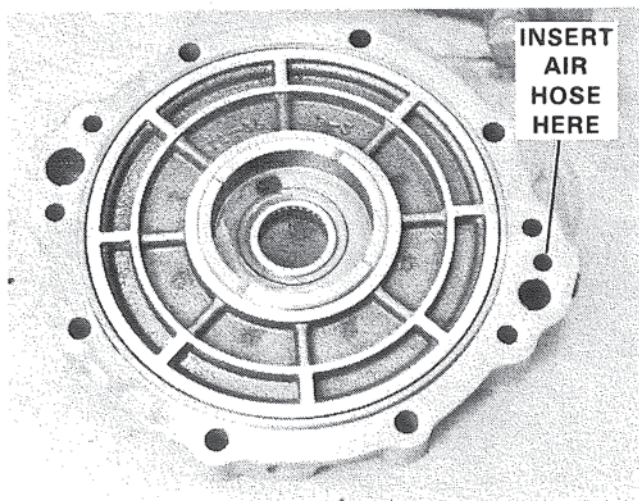

Figure 15. Disassembling Reverse Clutch Piston from Adapter.
2. Force compressed air into reverse clutch cavity while holding piston and piston will pop out of reverse clutch cavity. Figure 15.